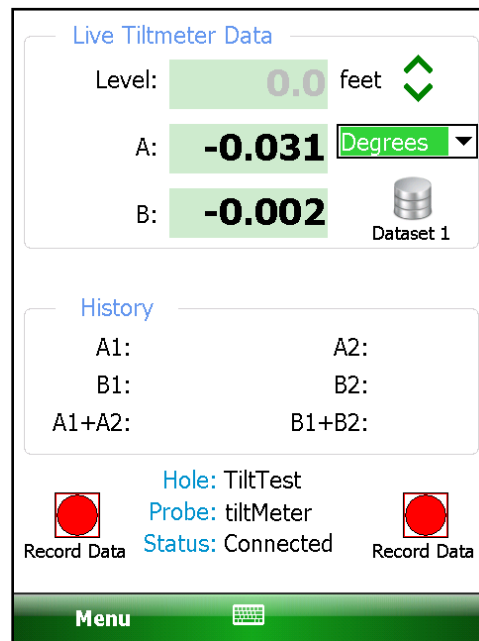

Figure 14 - Live Readings (Tiltmeter)
- 9) Tap the “Live Readings” menu item from the “Application” menu to start the reading process. If a valid Bluetooth connection can be established, a dual axis, tiltmeter specific, Live Readings screen will be displayed (see Figure 14).
Note the dropdown control in Figure 14, located just to the right of the “A:” value display. This allows the “A” and “B” values to be displayed in three different units, described below.